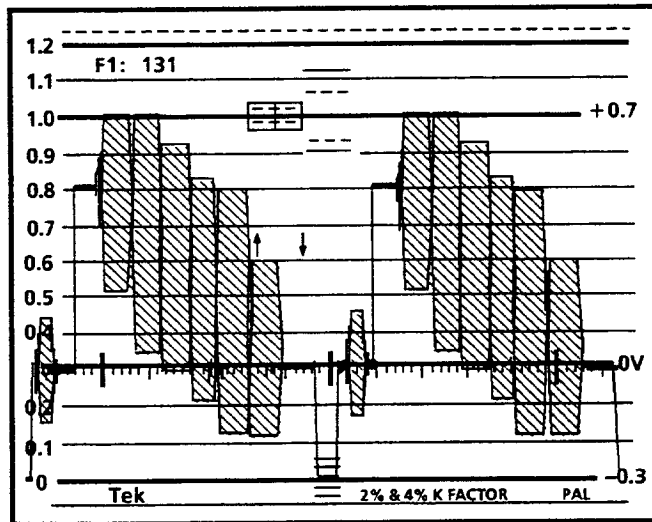

Figure 1-11: 2 Line display with LINE SELECT on (Note readout in upper left corner of graticule.)
- a. Turn on LINE SELECT and push and hold both the UP and DOWN buttons until the readout indicates that line 19 of field 1 is being displayed. Use the LINE SELECT UP or DOWN button to display line 131. See Figure 1-11. Holding in the UP or DOWN button causes the counter to move faster.